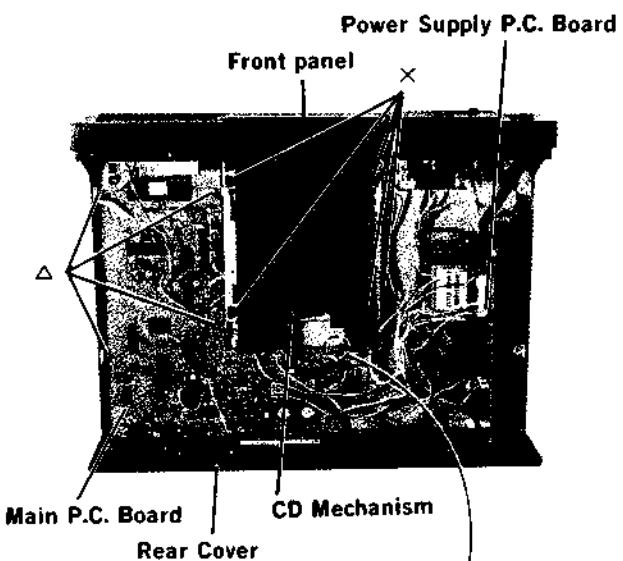
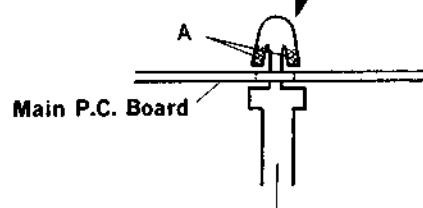

Figure 8 <8図>
Figure 9 <9図>
- (1) After removing the Front Panel remove the five screws marked "X" as shown in Figure 8.
- (2) Disconnect all wires connected to the CD mechanism.
- (3) the CD mechanism can now be removed.
- (2) Hold down on "A" (see Fig. 9) and remove P.C. Board support (C) as shown in Figure 8.
- (3) Disconnect all wires connected to the Main P.C. Board.
- (4) The Main P.C. Board can now be removed.